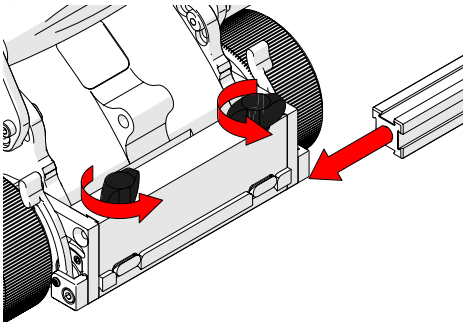
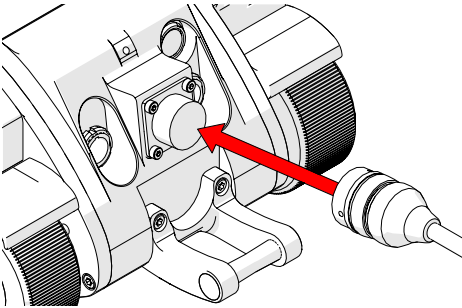

Fig. 50 - Frame bar installation
Fig. 60 - Press to umbilical connection
1. Rotate the two black wing knobs (*Fig. 50*) to loosen the dovetail jaws. Slide the frame bar along the dovetail jaws.
1. Press the umbilical to the umbilical connection of the crawler (*Fig. 60*).
Located on the side of the crawler, the cable retainer offers a means of cable management for cables, hoses and tubes. Gently apply pressure to the grooves of the cable retainer and lift (*Fig. 50*). Route cables, hoses or tubes through the retainer and then press the cable retainer down (*Fig. 60*).